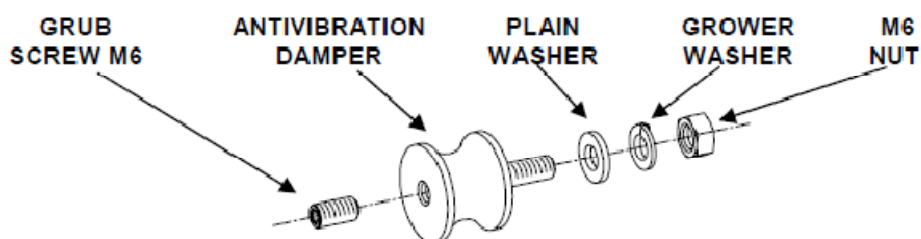

Figure 1
- Screw up the grub screw on the antivibration damper (**Fig. 1**).